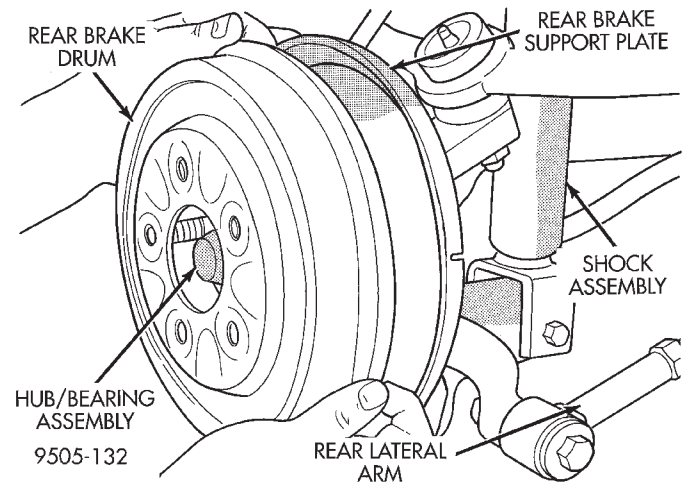

Fig. 19 Rear Brake Drum Removal
(1) Raise vehicle on jackstands or centered on a frame contact type hoist. See Hoisting in the Lubrication and Maintenance section of this manual for the required lifting procedure to be used for this vehicle.
(2) Remove rear wheel and tire assembly.
(3) If equipped with rear drum brakes, remove brake drum (Fig. 19) from rear hub and bearing assembly by removing the clips, then pulling the drum straight off the wheel mounting studs. If equipped with rear disc brakes, remove the rear caliper following the procedure found in REMOVAL AND INSTALLATION of the BASE BRAKE SYSTEM section of the group BRAKES. Remove the brake rotor by pulling the rotor straight off the wheel mounting studs.